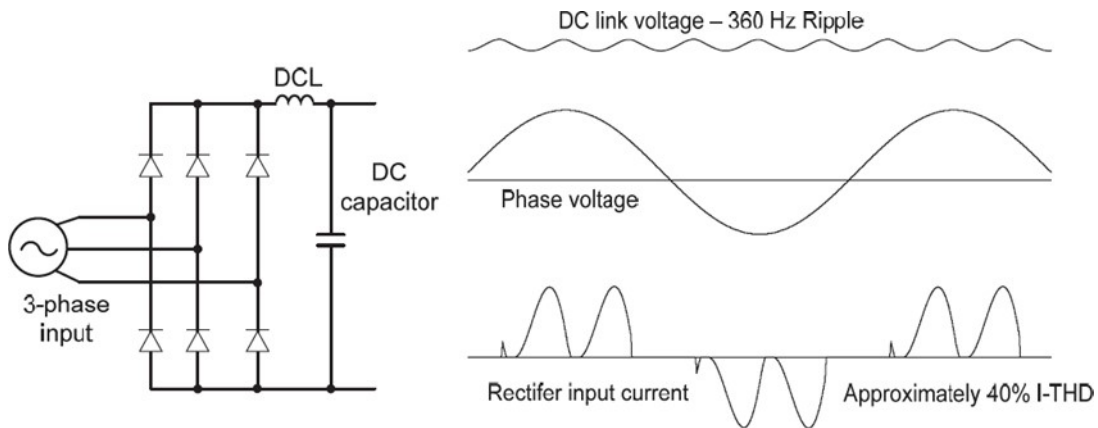
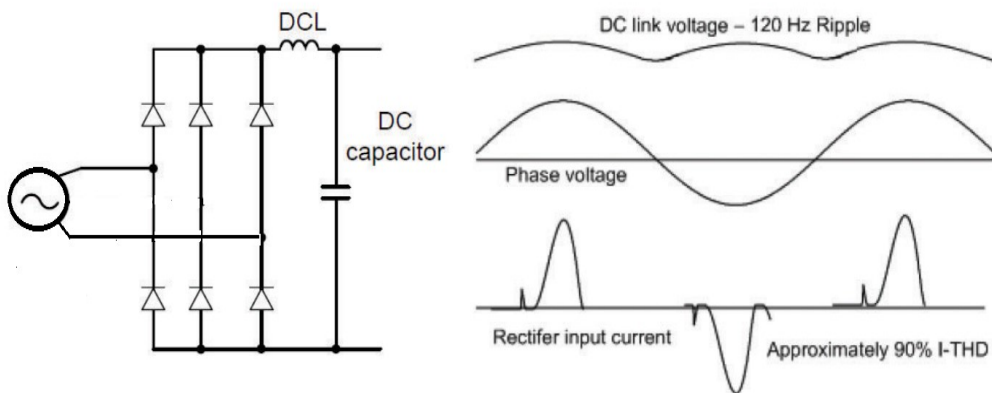

Figure 1. Typical Three Phase Configuration
Figure 2. Typical Single-Phase Configuration
- **Frequency** - Refer to Figure 1. Standard Pulse-Width-Modulated (PWM) VFDs use a 6-pulse diode rectifier. The 6-pulse rectification results in 360 Hz DC bus ripple when used with a three-phase 60 Hz power source. However, when a single-phase power source is used (Figure 2.), the DC bus ripple becomes 120 Hz. The result is the DC bus ripple voltage is higher, and the DC Bus circuit is subject to higher stress in order for the VFD to deliver equivalent power to the motor.
- **Harmonics** - Refer to Figure 2. Input current harmonics increase resulting in current distortion levels of 90% THD_i and greater compared to approximately 40% with a three-phase power source making the overall input power factor lower. Adding a line reactor (required for single phase) helps attenuate harmonics. Size the reactor based on VFD rating.